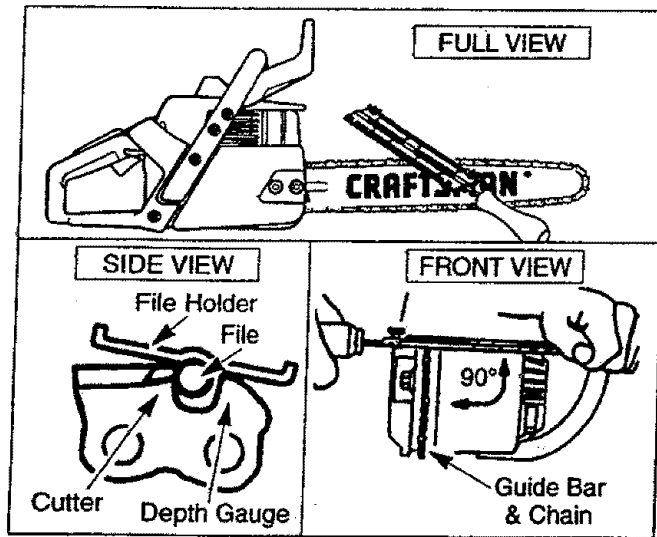

Figure 23
- To sharpen the cutters, position the file holder level (90°) so that it rests on the top edges of the cutter and depth gauge. See Figure 23.